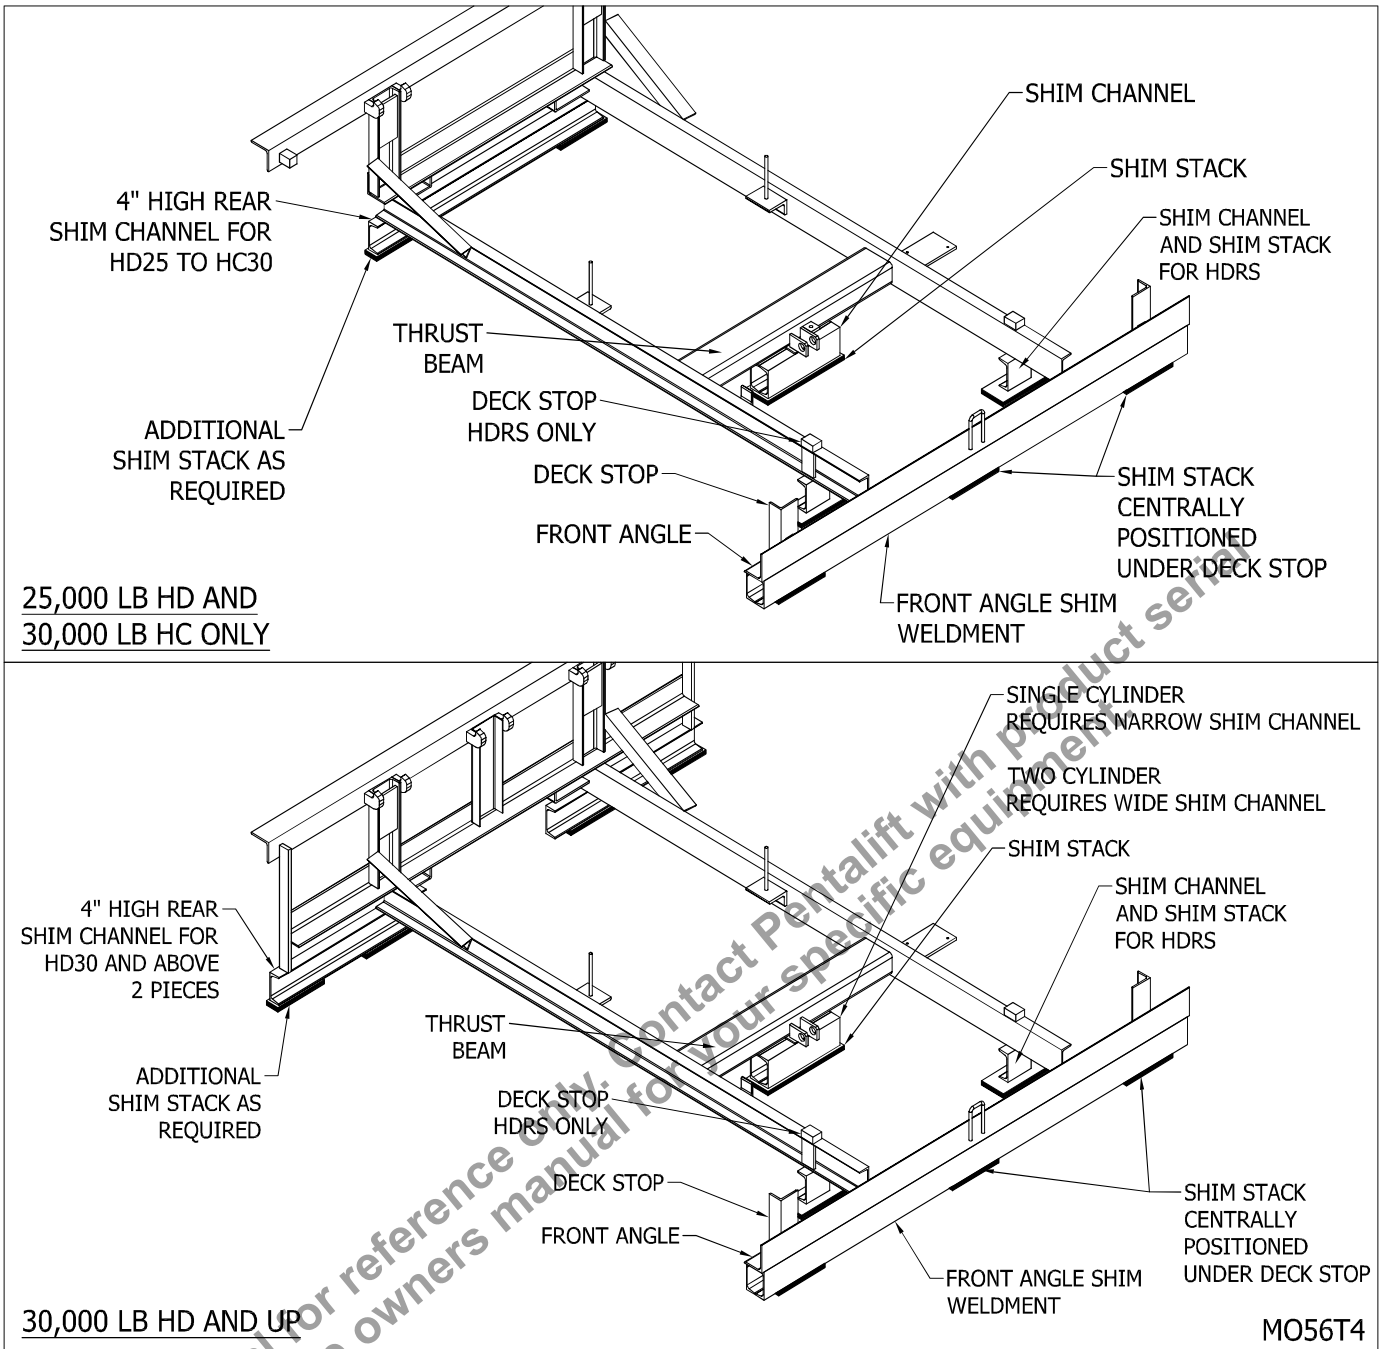

Figure 24: Installation Shims (4" Shim Kit Channel Shim Shown)
2. \_\_\_ Place the front-angle shim assembly into the pit at the front edge, centered across the dock leveler and pit width. When the front-angle shim is constructed of C-channel (3” & 4” shim kits) ensure the short pieces (12” long) on each end are installed toward the inside of the pit. See “Figure 24: Installation Shims (4” Shim Kit Channel Shim Shown)” on page 19.
8. \_\_\_ Lower the dock leveler until the front angle of the dock leveler rests on the front-angle shim. Ensure the front-angle shim assembly is flush with the front angle of the dock leveler frame. "Figure 24: Installation Shims (4" Shim Kit Channel Shim Shown)" on page 19.
14. \_\_\_ Add shims (3" x 4" x required thickness) to increase the front height of the dock until the deck plate is flush with the dock height (or at desired final level). Ensure shims are located beneath the front-angle shim at the location of the two deck stops as well as at the center of the front angle. (See "Figure 24: Installation Shims (4" Shim Kit Channel Shim Shown)" on page 19) All shims are to be minimum ASTM A-36 or CSA G40.21 material.
20. \_\_\_ Weld the 4" long cylinder shim assembly(s) to the underside of the cylinder thrust beam with the front of the cylinder shim assembly flush with the front edge of the clevis support plate. ("Figure 24: Installation Shims (4" Shim Kit Channel Shim Shown)" on page 19)
2. \_\_\_ Place the front-angle shim assembly into the pit at the front edge, centered across the dock leveler and pit width. When the front-angle shim is constructed of C-channel (3" & 4" shim kits) ensure the short pieces (12" long) on each end are installed toward the inside of the pit. "Figure 24: Installation Shims (4" Shim Kit Channel Shim Shown)" on page 19.
10. \_\_\_ Lower the dock leveler until the front angle of the dock leveler rests on the front-angle shim. Ensure the front-angle shim assembly is flush with the front angle of the dock leveler frame. "Figure 24: Installation Shims (4" Shim Kit Channel Shim Shown)" on page 19.
16.  Add shims (3” x 4” x required thickness) to increase the front height of the dock until the deck plate is flush with the dock height (or at desired final level). Ensure shims are located beneath the front-angle shim at the location of the two deck stops as well as at the center of the front angle. (See “Figure 24: Installation Shims (4” Shim Kit Channel Shim Shown)” on page 19) All shims are to be minimum ASTM A-36 or CSA G40.21 material.
22.  Weld the 4” long cylinder shim assembly(s) to the underside of the cylinder thrust beam with the front of the cylinder shim assembly flush with the front edge of the clevis support plate. (See “Figure 24: Installation Shims (4” Shim Kit Channel Shim Shown)” on page 19)